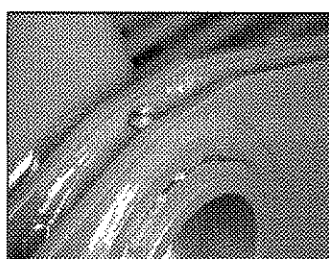

fig. 40d
- fig. 40d shows the lubricator of the pendulum beam.